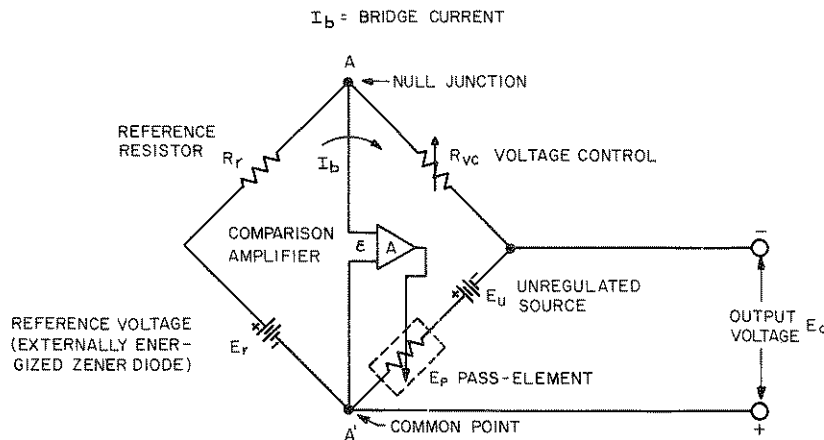

FIG. 3-3 KEPKO POWER SUPPLY CIRCUIT WITH COMPARISON BRIDGE (SIMPLIFIED)
- 3-9 GENERAL. A few general remarks may be in order to familiarize the user of this equipment with the terminology and basic equations pertaining to remote programming of Kepco Power Supplies. Electrically, the power supply, consists of the unregulated DC source (E_U), the pass element (E_P), the DC error amplifier (A) and a comparison circuit which resembles a four-arm electrical bridge. (Refer to FIG. 3-3). The elements of the bridge are arranged to produce a virtual zero at the amplifier input when the bridge circuit is at balance ($V_{AA'} = 0$). Any tendency for the output voltage to change in relation to the reference voltage (E_r) creates an error signal (e) which, by means of negative feedback and the amplifier, tends to correct the output voltage towards restoration of bridge balance.